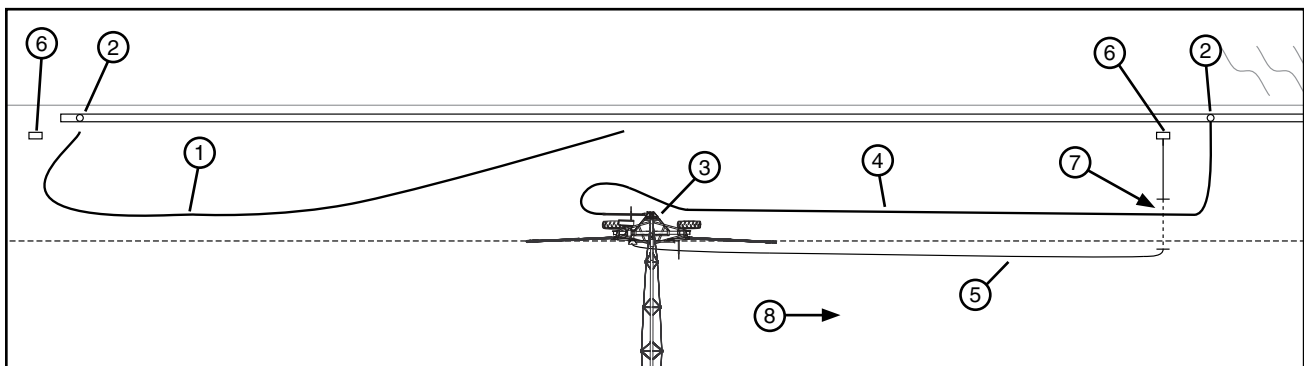

Figure 44-2 1. First Hose 2. Shut Off Valve 3. Swivel Inlet 4. Second hose 5. Electric Cord 6. Power Pedestal 7. Buried Cable Location 8. Direction of Travel
- Unlatch and disconnect first hose from swivel inlet. Positioning the hose to drain away from the cart path. See figure 44-2.
- With second hose connected to shut off valve, position second hose, connect to swivel inlet and latch in place. Reposition the end of field/hose stop for the length of the second hose being used. See figure 44-2.
- Position the electric cord as shown. When applicable, prevent interference between the electric cord and the hose by burying the electric cord in the ground as shown. Allowing for the hose to travel over the buried portion of the cord. See figure 44-2.